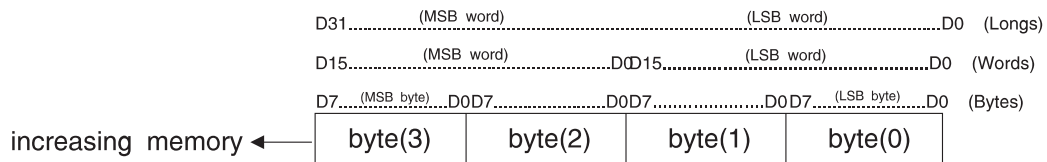

Figure B.4 TMS34010 Bit and Byte Numbering Conventions
Data in TMS34010 memory is typically described as shown in Figure B.4.
In Figure B.4, byte(0) is the lsb byte in the byte sequence byte(0), byte(1), byte(2), and byte(3). For words, byte(1), byte(0) is the lsb word, and byte(3), byte(2) is the msb word (the next word). For a long, all four bytes are used to represent the long, and byte pair byte(3), byte(2) is the msb word of the long, and byte(1), byte(0) is the lsb word of the long.